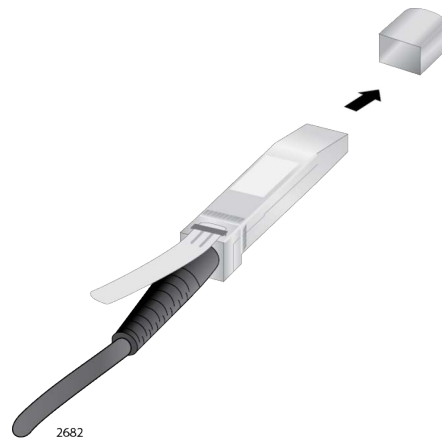

Figure 89. Removing the Dust Cover from the AT-SP10TW Cable
3. Remove the dust cap from a connector on the cable. Refer to Figure 89.